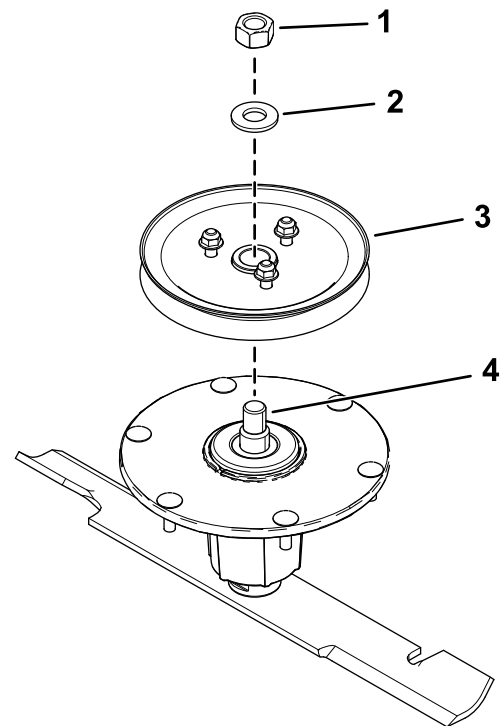

Figure 9
- Install the sheave assembly to the spindle using the washer and top nut (Figure 9).